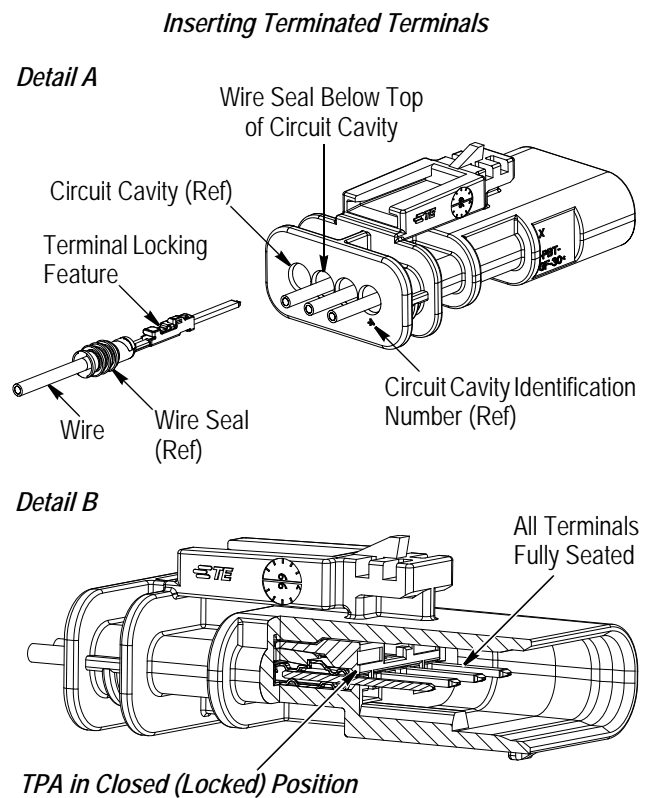

Figure 3
- a. Align the terminal with the selected circuit cavity of the housing so that the terminal locking feature faces the circuit cavity identification number. See Figure 3, Detail A.
c. Check that the wire seal is below the top of the circuit cavity. See Figure 3, Detail A. If it is not, press the protruding part of the wire seal into the circuit cavity, ensuring that it stays in place. If necessary, use a blunt probe with a rounded edge. Take care not to tear the wire seal. If the wire seal tears, the terminal and wire seal must be replaced.
6. After all terminals have been inserted, move the TPA to the closed (locked) position. The TPA should be easy to close. See Figure 3, Detail B.